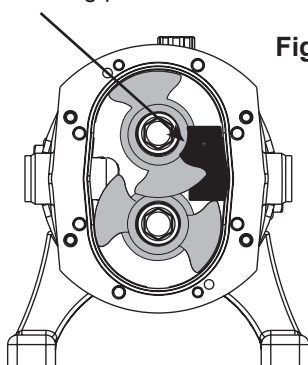

Fig. 3
1. Remove the front cover (1) as described in section 4.1.
2. Position the rotors (35) and insert the fitting tool as shown in fig. 3.
3. Undo and remove the top or right rotor screw (32).
4. Remove the rotor locking piece and pull the rotor (35) out from the shaft (38). Ensure that the wings of the other rotor are not overlapping the hub of the rotor being pulled out.